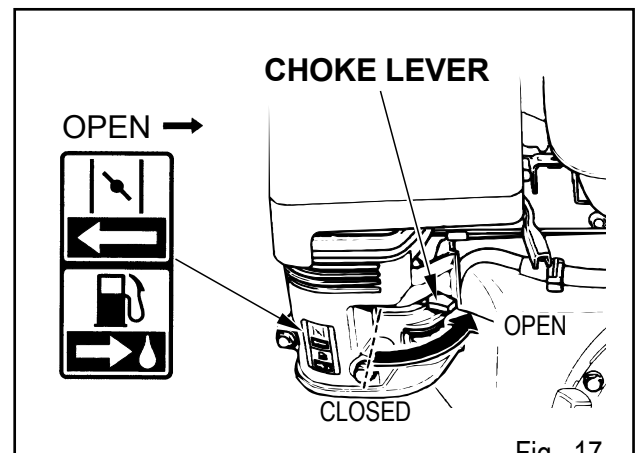

Fig. 17
6. If the choke lever or choke rod (applicable types) has been moved to the CLOSED position to start the engine, gradually move it to the OPEN position as the engine warms up. (Fig.17)